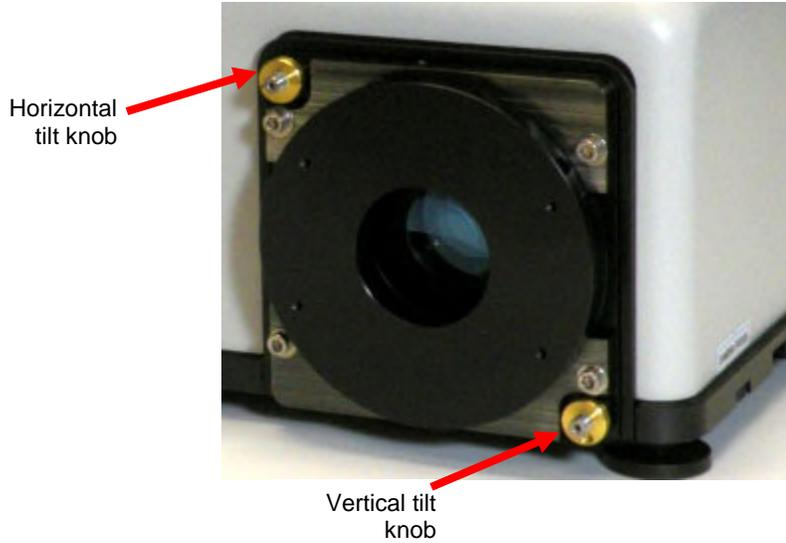
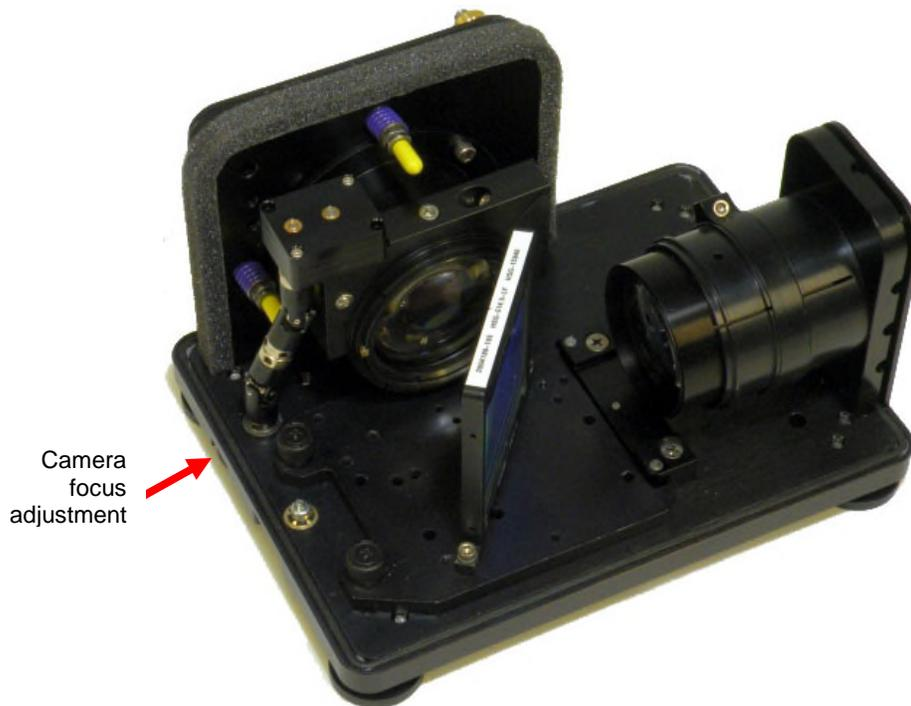

Figure 4-10. The camera mount, including the horizontal tilt knob with its setscrew, vertical tilt knob, and camera focus thumbwheel.
Figure 4-11. Camera focus adjustment.
When focusing and aligning the camera, use the smallest available slit, preferably 25- $\mu\text{m}$ . All focus and alignment adjustments are performed with the camera focus, horizontal tilt, and vertical tilt adjustment screws (Figure 4-10).
**Note:** Before adjusting the horizontal or vertical tilt adjustment screws (Figure 4-10), loosen the setscrews that lock the adjustment screws.
- 5** Adjust the camera focus thumbwheel (Figure 4-11) and vertical tilt adjustment screw (Figure 4-10) until spectral lines located near the center of each stripe are simultaneously in focus (i.e., line width is minimized).
- 6** Adjust the camera focus thumbwheel (Figure 4-11) and horizontal tilt adjustment screw (Figure 4-10) until spectral lines located at the left and right of the detector are simultaneously in focus.